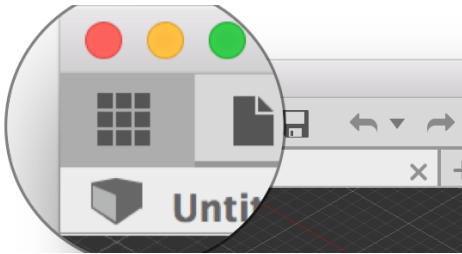

FIGURE 1.2: SHOW DATA PANEL.
- Click on **Show Data panel**, Figure 1.2. Click on the blue **New Project** button, Figure 1.3. If you do not see this button, you may already be within a folder or project. Look for the back arrow button in the top left, and use it to navigate to the root level of the Data Panel.